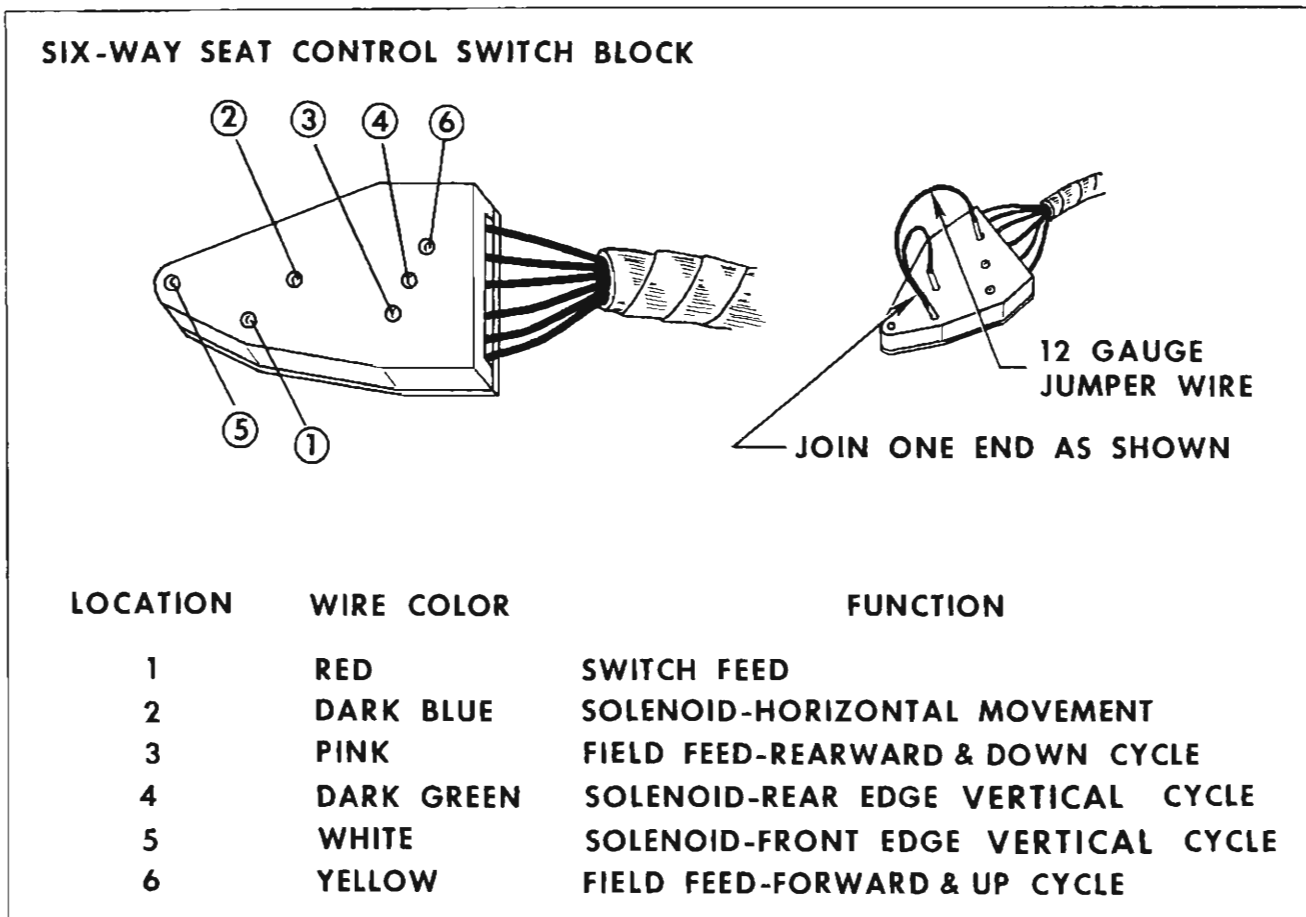

Fig. 109—Six Way Seat Control Switch Check
1. Connect one light tester lead to feed terminal of switch block and ground other test lead to body metal. (Figure 109).
NOTE: In the following operations which specify the seat control switch to be actuated, a switch that has been checked for proper operation may be connected to the switch block. If a switch is not available, a three-way jumper wire can be made to perform the switch function. The jumper wire and the switch locations are to be connected to obtain a specific movement of the seat. (See Fig. 109). If a jumper wire is used, number the locations on the switch block as indicated in the illustration. Details outlining
To make jumper wire, obtain two (2) pieces of #12 gauge wire, each 4½" long, join one end of each wire as shown in Figure 109. The joined end can be inserted in the feed location in the switch block; one of the remaining ends can be inserted into one of the field locations in the switch block; the other end can be inserted into one of the solenoid locations.